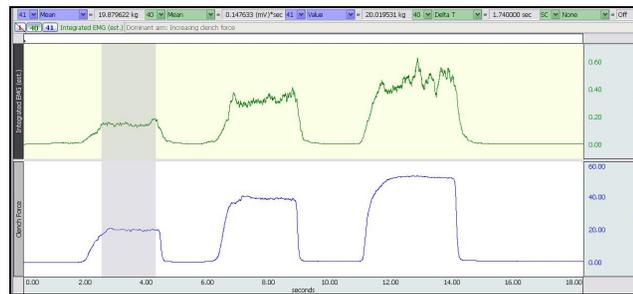

Fig. 2.17 Plateau of first clench selected
- Use the **I-Beam** cursor to select an area on the plateau phase of the first clench (Fig. 2.17).